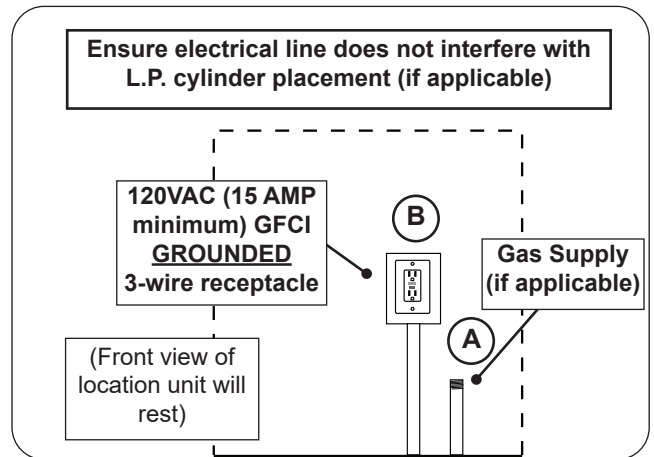

Fig. 19-1 Route gas and electrical (receptacle)
1. Ensure the gas supply is properly routed into the area that the unit will rest over (see Fig 19-1, A).
1. Wire the receptacle into the area that the unit will rest over (see Fig 19-1, B).